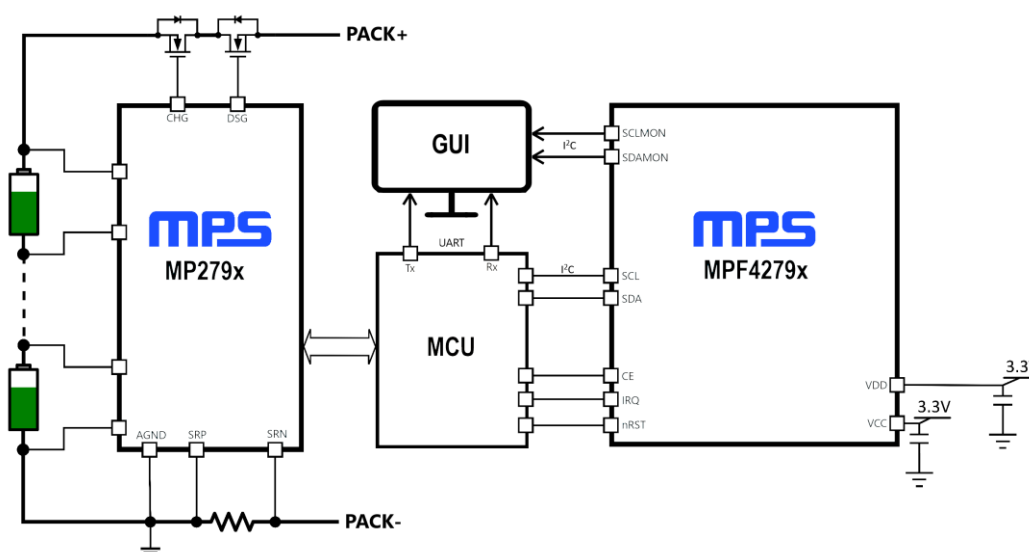

Figure 1: MBMxxS-P50-x Block Diagram Design
The board also features the MPF4279x, a standalone battery fuel gauge (FG) IC that performs state-of-charge (SoC), time-to-full, time-to-empty, and unavailable energy estimation using a custom battery model obtained through exhaustive characterization and voltage, current, and temperature readings. This solution is fast, simple, and easy to configure through the graphic user interface (GUI). Figure 1 shows the MBMxxS-P50-X block diagram.